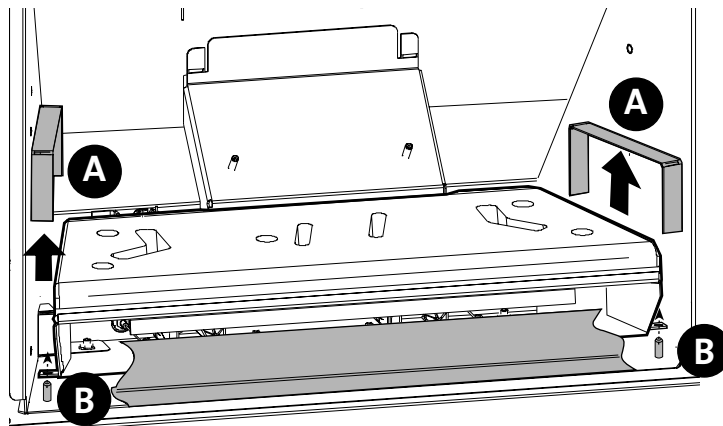

Figure 1. Burner removal and re-installation.
2. **REMOVE THE GLASS FRAME** using the Latch Tool. See fig. 1.
Lift out the two steel support shelves, fig. 1, (A), located at each side of the burner. Grasp the burner assembly at the sides, lifting it straight up, then tilt it back to disengage it from the injectors and front locator studs (B). Pull the assembly up out of the firebox.
9. **REINSTALL THE BURNER ASSEMBLY.** Tilt the back of the burner down to engage the air shutters with the injectors. Set the burner in place, engaging the front brackets at each side with the studs in the firebox floor, fig. 1, (B).
Replace the steel side support shelves, fig. 1, (A).